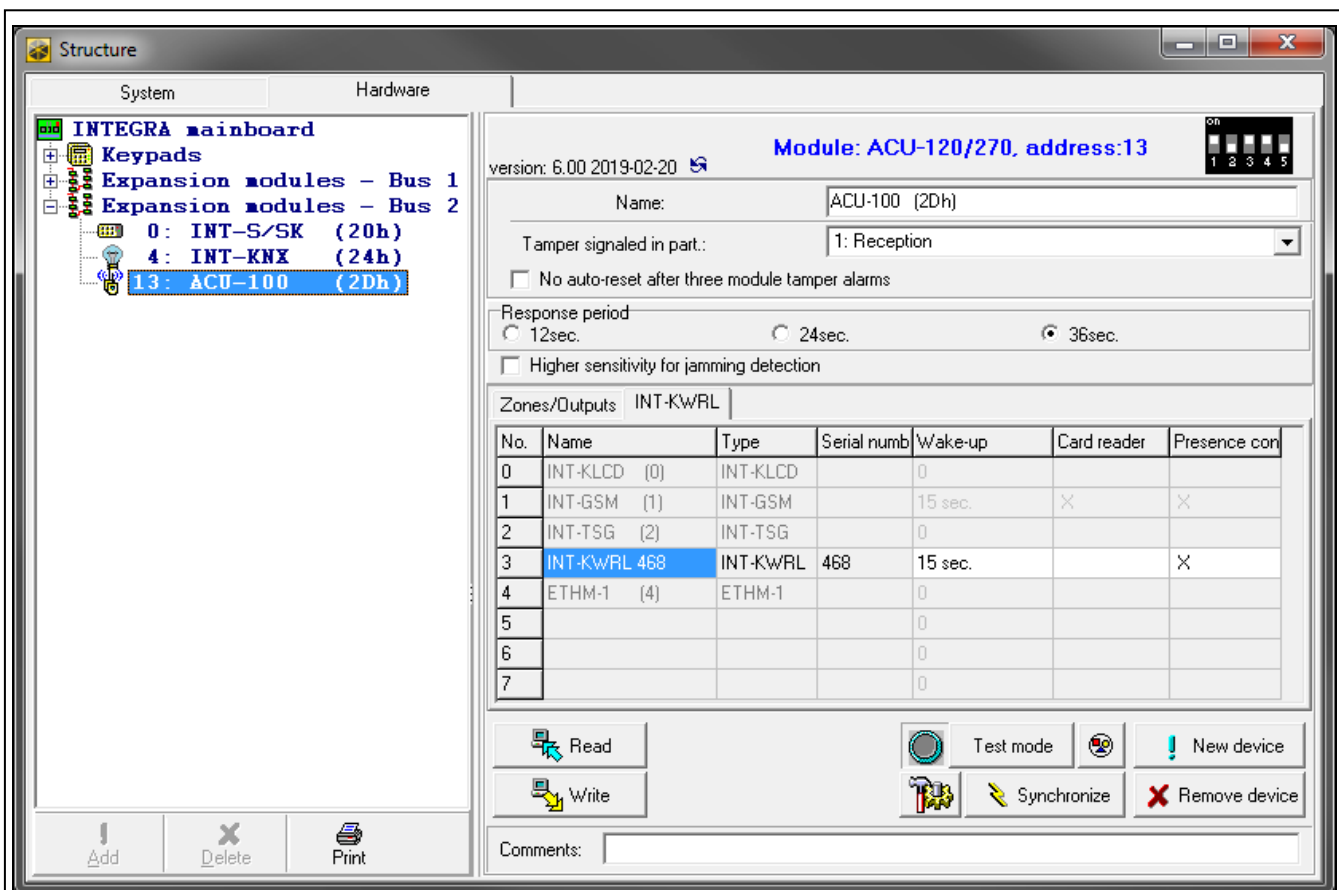

Fig. 6. DLOADX program: keypad settings stored in the ABAX 2 / ABAX controller.
You can add wireless keypad in the “Structure” window, “Hardware” tab, after clicking on the name of ABAX 2 / ABAX controller on the list of devices, and then on the “INT-KWRL” tab (see Fig. 6 p. 8).
You can remove the wireless keypads in the “Structure” window, “Hardware” tab, after clicking on the name of ABAX 2 / ABAX controller on the list of devices, and then on the “INT-KWRL” tab (see Fig. 6 p. 8).
- DLOADX program: →“Structure” window →“Hardware” tab →“Expansion modules” branch →*[controller name]* →“INT-KWRL” tab (see Fig. 6),